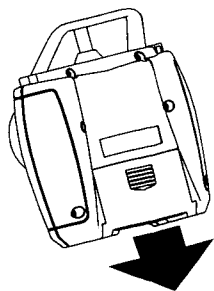

FIGURE 4
1. Press arrow symbol on battery door and slide door off. (Figure 4)